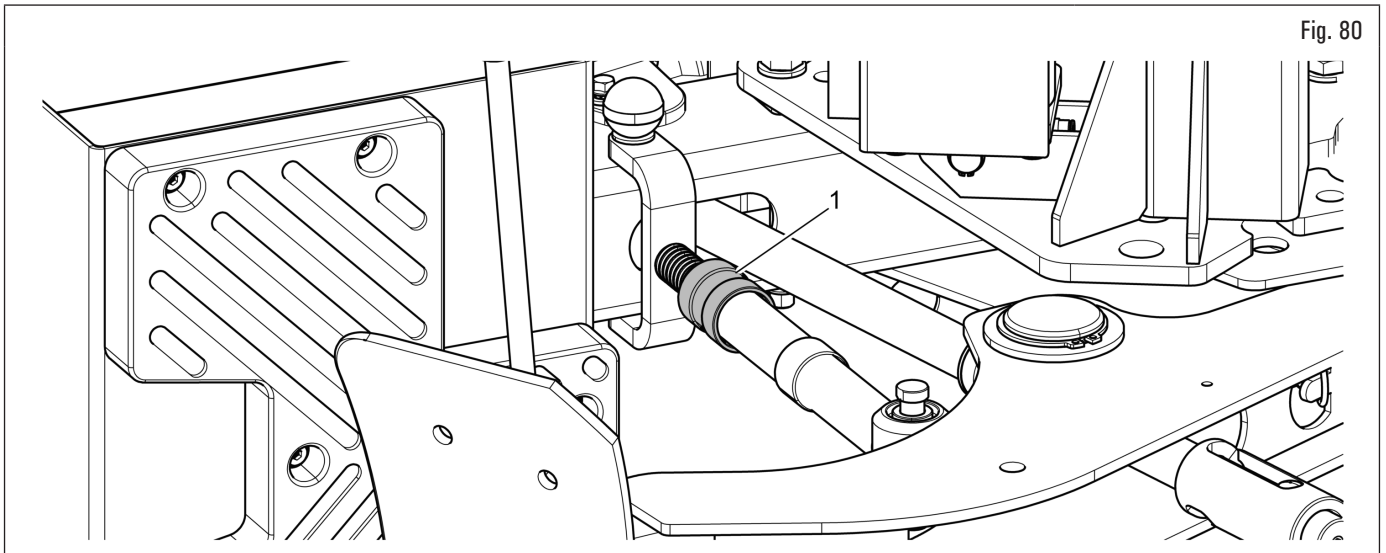

Fig. 80
2. adjust the travel of the bead breaker stroke limiter by acting on its adjustment ring nut (Fig. 80 ref. 1), so that the shovel can penetrate beyond the edge of the rim for a height equal to the height of a wedge of the bead press extension;